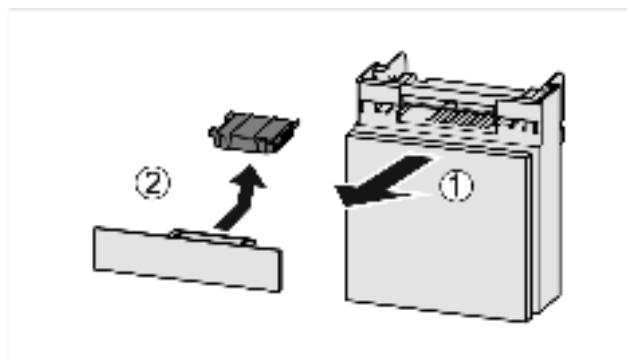

Fig. 98
- Pull out the compartment *Fig. 98 (1)*.
- Remove the carbon filter *Fig. 98 (2)*.